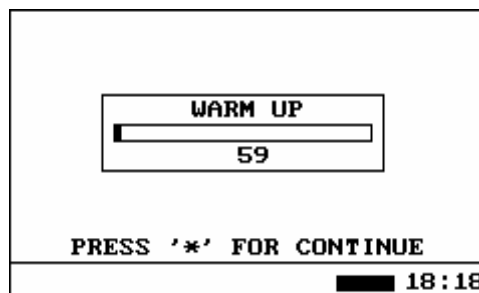

Figure 4. WARM UP mode screen view
1.3.3.2. WARM UP mode is active on completing the START UP mode. In this mode an electronic components are warming up. Fig. 4 shows the WARM UP screen view. Duration of this process is 60 s.